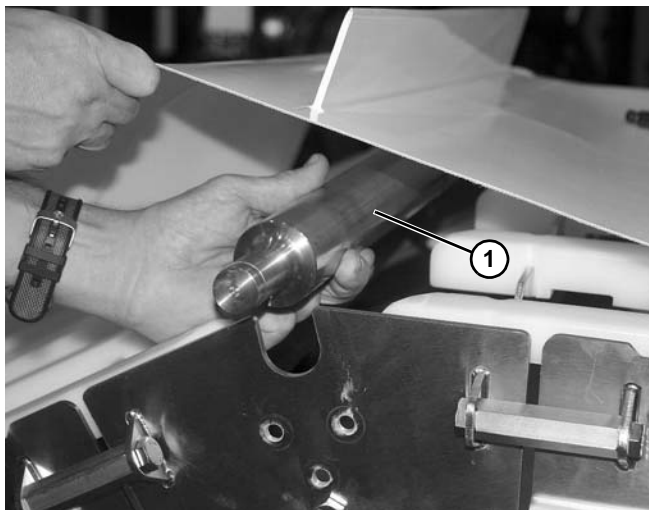

Figure 197
6. Remove spindle shaft (**Figure 197, item 1**) from upper knuckle.